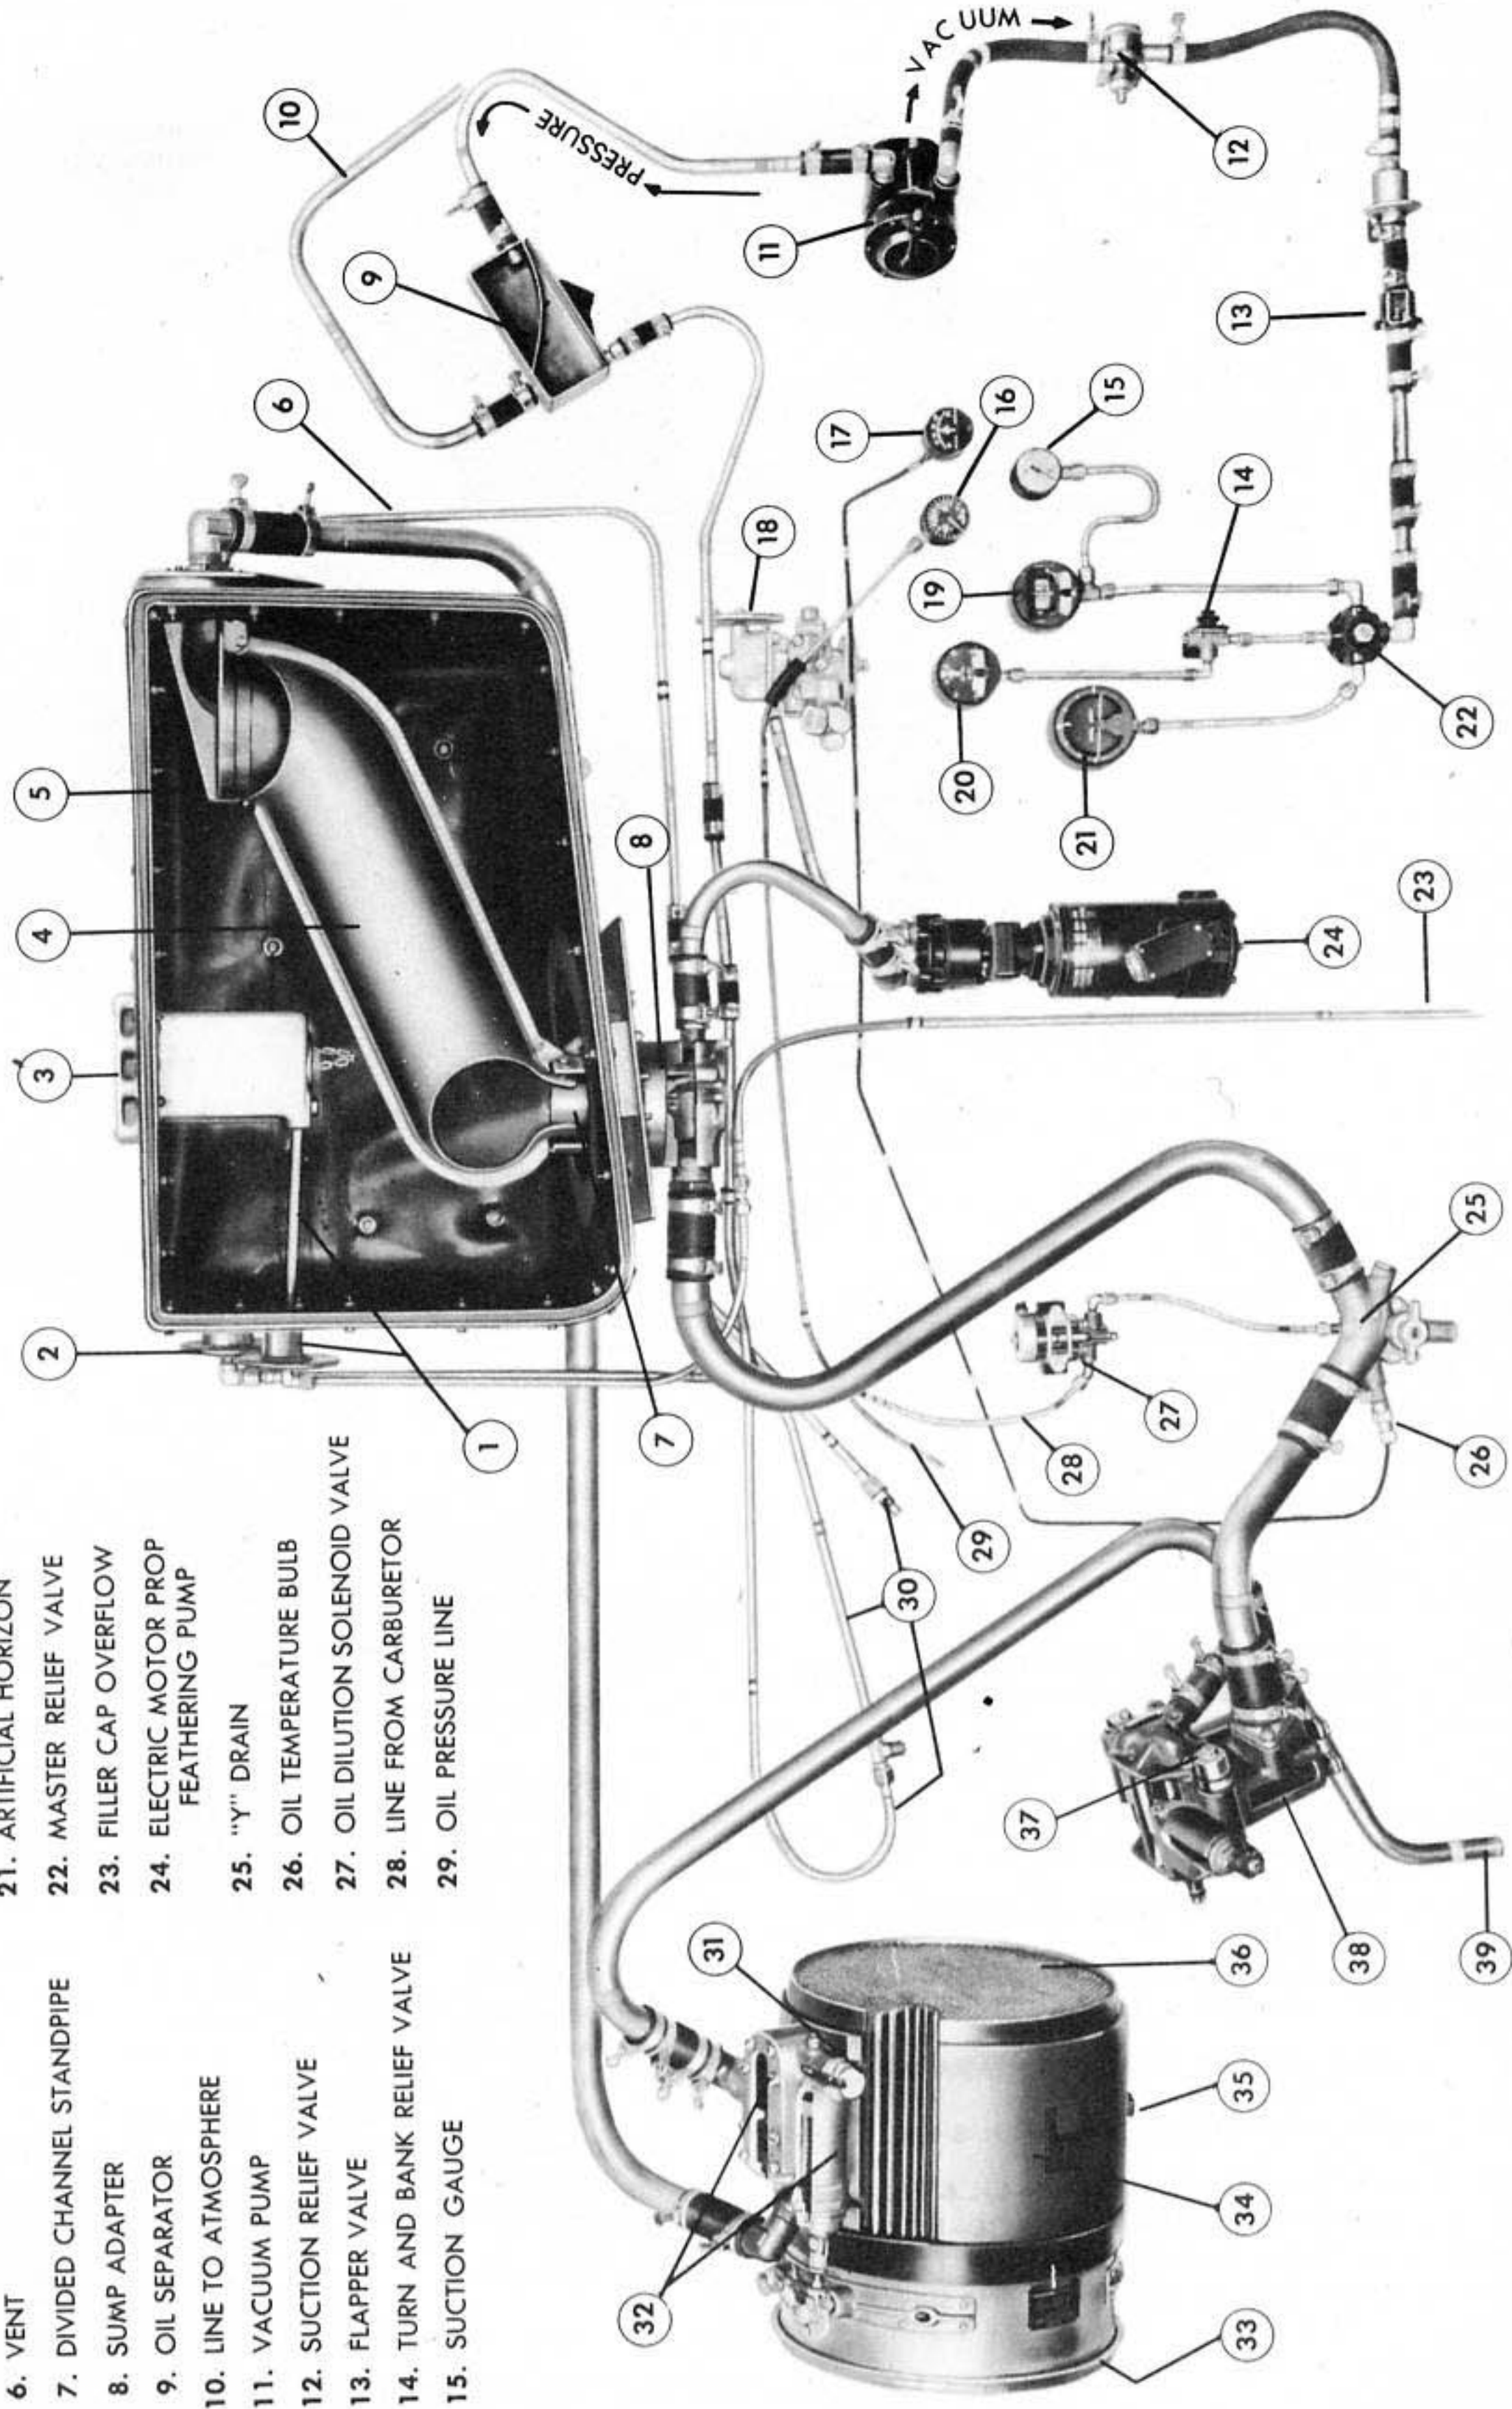

Figure 125 - OIL SYSTEM MOCK-UP
(1) GENERAL. (See figures 125 and 137.) - Each engine and its propeller has an independent pressure feed oil system. Two oil supply containers are located in the inner wings forward of the main spar on the center line of the nacelle. Filling, removal, and installation of the oil supply containers are accomplished through access doors and cover plates on the upper wing surface. Supply lines to the engine pump and to the propeller feathering pump lead from a sump adapter which is attached to the bottom of the oil supply container. The sump adapter protrudes beneath the wing and is accessible forward of the fire wall. The oil container filler cap is so constructed that it regulates the ratio of oil supply to air space. A baffled hopper reduces oil foaming and minimizes the turbulence of flow. The hopper also vents air in oil returning from the engine. Pressures set up in the oil container by the foaming of return oil, or by volatilized gases due to oil dilution or burned oil are released by vent lines. Vents lead from both the inboard and outboard upper walls of the supply container to the engine, and assure venting while the oil container is inclined. Excess of oil in the filler neck overflows by line to atmosphere. An engine pump supplies oil under pressure to each engine, and filters and returns the oil through the cooler to the supply container. An oil temperature regulator, referred to as the oil cooler, is mounted in each nacelle, inboard. An electrically driven pump supplies oil at proper pressures directly from the supply container to a propeller feathering governor. For cold starts a solenoid operated valve controls injection of gasoline into the oil at the "Y" drain leading to the engine supply.
(2) OIL CONTAINERS. (See figure 126.) - Containers are of the self-sealing type. Each is attached to the inner wing structure at six points and has a capacity of 23 U.S. gallons (19 Imperial gallons) oil supply and about three gallons foaming space. Use only AAF Specification AN-VV-O-446a, grade 1120, oil. Access to the filler cap for filling and checking oil is made through hinged access door (E) (figure 19), which is a part of fairing plate (D) (figure 19), located on the upper wing surface. A bayonet type oil gage rests in a tube leading from the filler cap downward into supply container and is removable for inspection through the filler neck. A filler neck overflow line (figures 125 and 126) leads from filler neck through oil container wall and to atmosphere, where it may be identified on the inboard side of the nacelle at frame Station 43 (figure 7). As this line leads horizontally from the lower portion of the filler cap, which itself extends well down into the container, filling of containers above this level is rendered impossible. Therefore, provision is made for air and foaming space and for the release through vents of the gases mixed with oil returning from engine. Oil pressures formed in the engine by
burned gases or by oil dilution are relieved by vents from the rear engine case. The vents empty at a point near the trailing edge of the upper cowl flaps. Foaming oil carried over in the vent lines with the gases from the supply container to the engine sump is scavenged and returned to supply by the scavenge side of the engine pump. A hopper (figures 125 and 126) within the container and through which the return oil feeds as it enters oil container, is provided with four baffles which quiet the flow of oil. The hopper also incorporates three vents at its head to release into the air space at top of oil container any gases mixed with the return oil. The head of the hopper is designed so that oil enters the hopper in a manner to avoid foaming. Oil returning from the engine through the cooler unit enters the upper wall of the container directly into the hopper. It flows downward through the baffles and is released into the container supply from an opening in the bottom of the hopper. A standpipe (figure 126) extending upward into the container above the sump, supplies at all times approximately a gallon of oil to the propeller feathering pump. This assures a means of feathering the propeller even in an emergency such as severance of the main oil line leading from oil container supply to the "Y" drain and engine. The oil container may be drained by means of a drain cock at the bottom of the "Y" drain. Before opening cock, attach suitable length of clean hose to catch oil.
(3) SUMP ADAPTER. (See figures 125 and 127.) - A sump casting is assembled to the bottom of the oil container and a sump adapter is attached by six bolts to the casting. The sump adapter will catch and